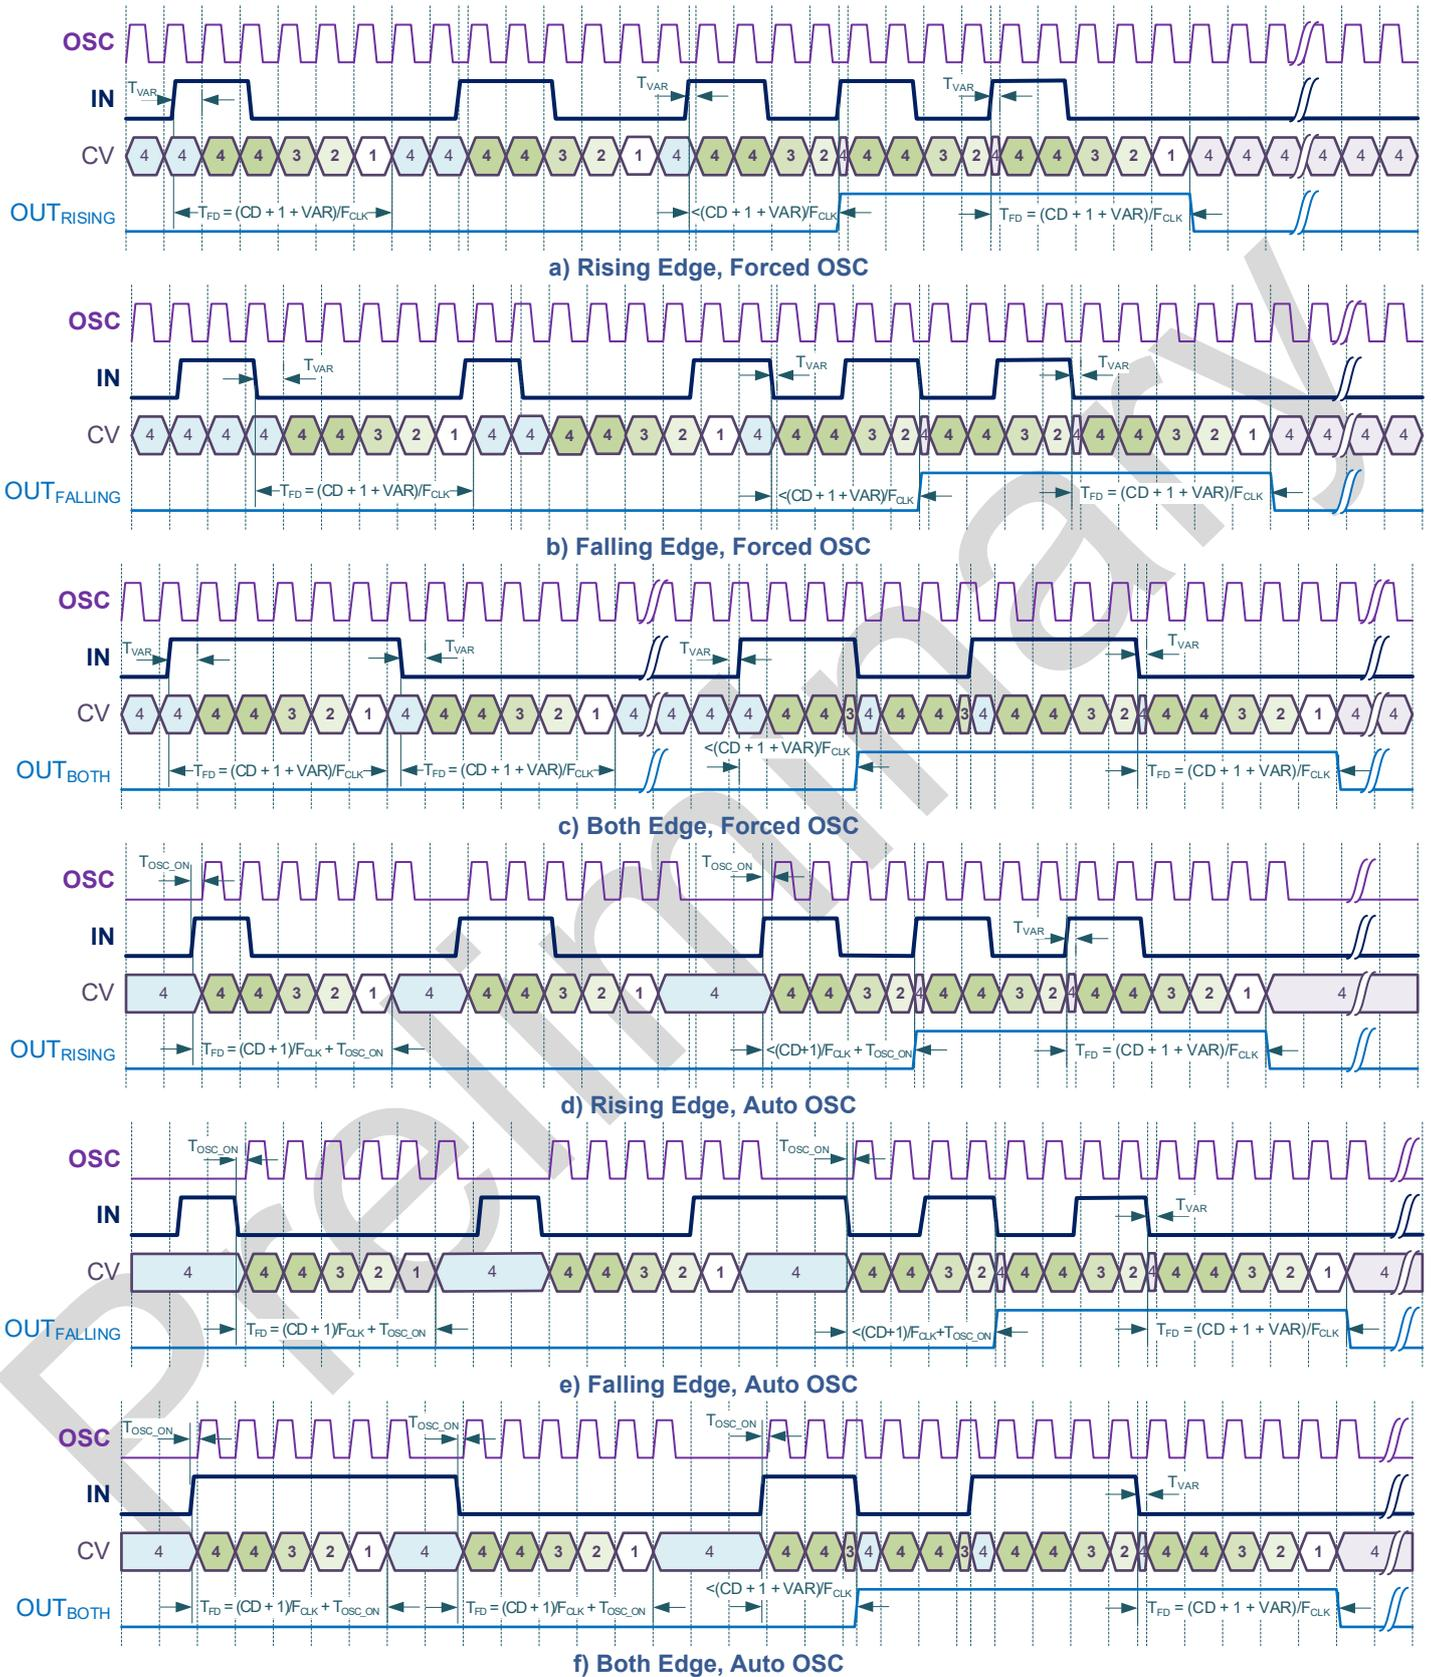

Figure 8.8. Frequency Detector Mode (Control Data: 4)
The timing diagrams of the Frequency Detector Mode is shown in the Figure 8.8.
- Frequency Detector (Figure 8.8)